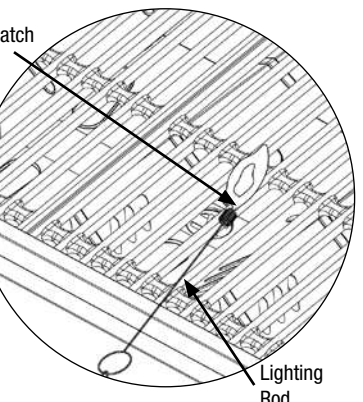

Figure 4
- If igniter does not light burner, use a lit match secured with the lighting rod (included with grill) to light burners. Access the burners through the cooking grid and heat plates. Position lit match near side of burner (Figure 4).